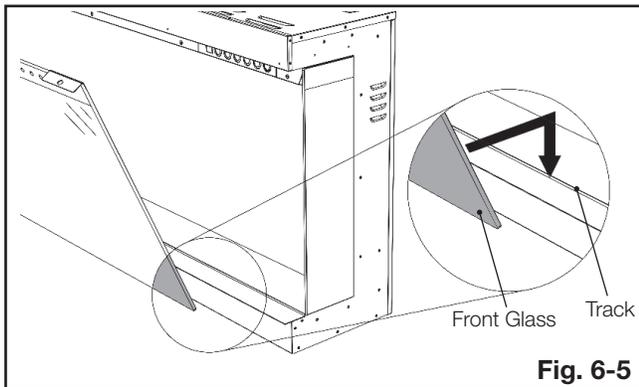

Fig. 6-5
1. Place the front glass into the track located inside the firebox (**Fig. 6-5**).